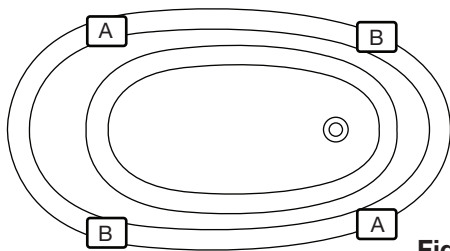

Fig. 3. (Top View)
- For the Freestanding tub with feet, check that decorative feet have enough clearance to fit in the locations as shown in **Fig. 3**.
- For the Freestanding Tub with Feet, apply a bead of silicone to the bottom of the decorative feet & install them on the tub in the locations shown in **Fig 3**.